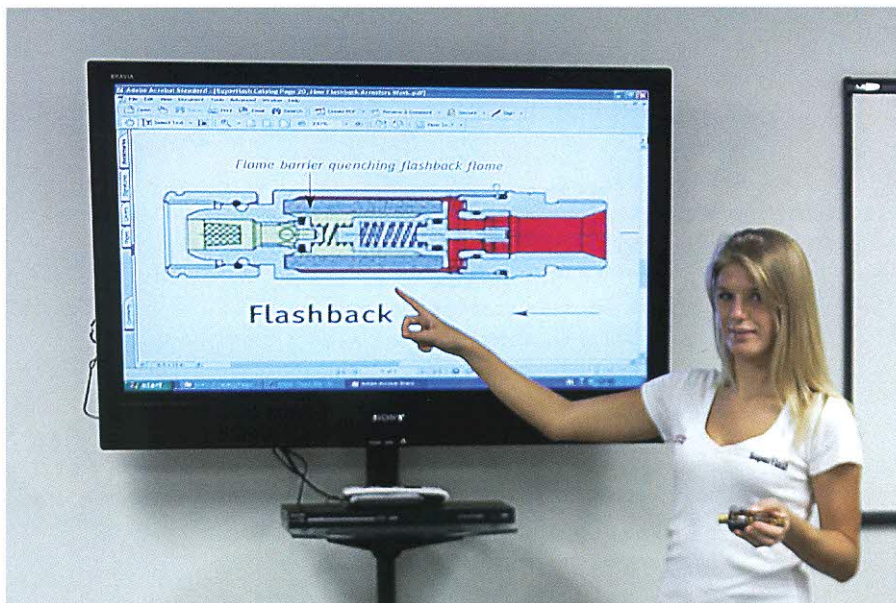

Fig. 2 — Regular welding gas safety training as is shown here should be included in every safety program.
- A comprehensive gas safety program includes regular gas safety training for any employee who uses welding or industrial gases, or who requisitions, completes paperwork, or supervises areas where gases are used, stored, or transported — Fig. 2.